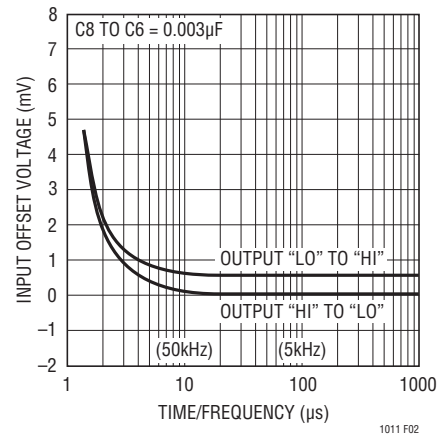

Figure 2. Input Offset Voltage vs Time to Last Transition
This circuit is especially useful for general purpose comparator applications because it does not force any signals directly back onto the input signal source. Instead, it takes advantage of the unique properties of the BALANCE pins to provide extremely fast, clean output switching even with low frequency input signals in the millivolt range. The 0.003µF capacitor from Pin 6 to Pin 8 generates AC hysteresis because the voltage on the BALANCE pins shifts slightly, depending on the state of the output. Both pins move about 4mV. If one pin (6) is bypassed, AC hysteresis is created. It is only a few millivolts referred to the inputs, but is sufficient to switch the output at nearly the maximum speed of which the comparator is capable. To prevent problems from low values of input slew rate, a slight amount of DC hysteresis is also used. The sensitivity of the BALANCE pins to current is about 0.5mV input referred offset for each micro-ampere of BALANCE pin current. The 15M resistor tied from OUTPUT to Pin 5 generates 0.5mV DC hysteresis. The combination of AC and DC hysteresis creates clean oscillation-free switching with very small input errors. Figure 2 plots input referred error versus switching frequency for the circuit as shown.